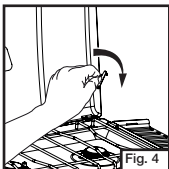

Fig. 4
- Open the stove lid, rotate the wind guard holder inside the stove lid toward outside. (Fig. 4)